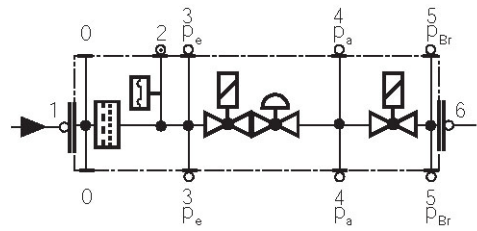
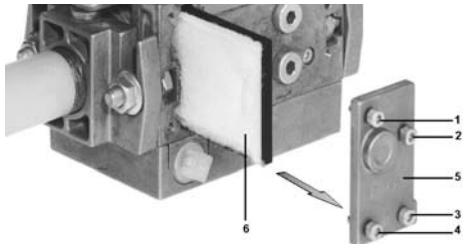

Fig. 44
Fig. 45
- Change the filter if the pressure difference between pressure connection 1 and 3 (Fig. 44-Fig. 45) is $\Delta p > 10$ mbar.
- Change the filter if the pressure difference between pressure connection 1 and 3 (Fig. 44-Fig. 45) is twice as high compared to the last check.